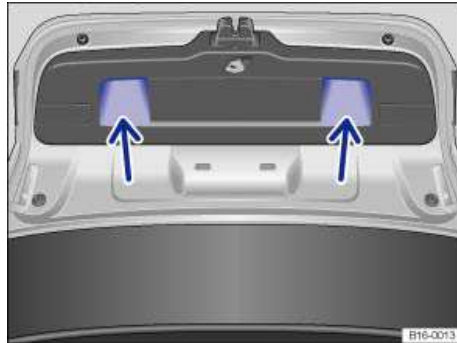

Fig. 46 Opened luggage compartment lid: Recessed grips for closing.
- Grasp one of the recessed grips in the trim of the luggage compartment lid ⇒ fig. 46 (arrows).